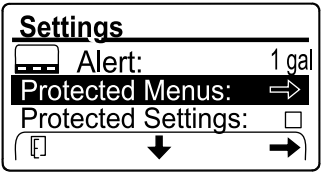

Figure 108
- Enter the PIN code for the PROTECTED MENUS option (Figure 108), refer to Accessing Protected Menus (page 23).